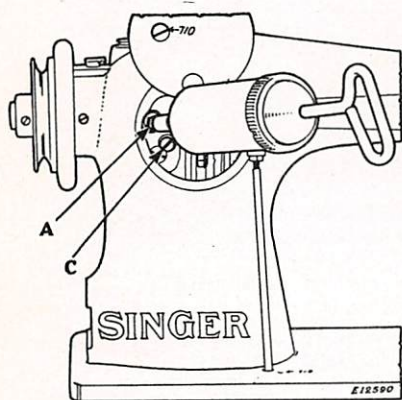

Fig.4
level hole screw (C, Fig.4) and force the lubricant into the Alemite fitting (A, Fig.4) until it emerges from the level hole at (C), then replace the screw (C).
Replenish the gear cases at (A) and (B), Figs. 4 and 5 with Singer Gear Lubricant every 160 hours of operation.
To supply grease to the upper gear case (Fig.4), have the machine in its normal working position, remove the